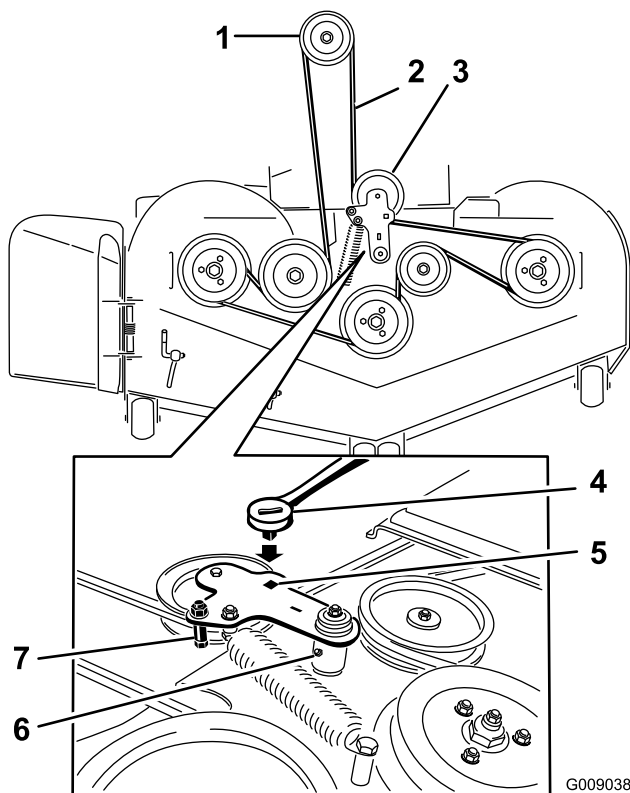

Figure 80
5. Use a ratchet in the square hole in the idler arm to remove tension on the idler spring (Figure 80).
7. Remove the belt guide on the spring loaded idler arm shown in Figure 80.
9. Install the new belt around the mower pulleys and the clutch pulley under the engine (Figure 80).
10. Install the belt guide on the idler arm shown in Figure 80.
11. Using the ratchet in the square hole, install the idler spring (Figure 80).